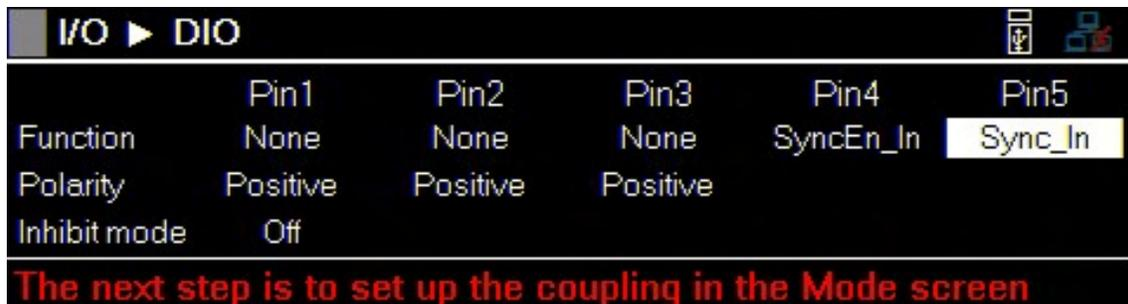

Figure 10.9 Synchronization In
- First configure all slave mainframes for Sync_In as shown in **figure 10.9**.